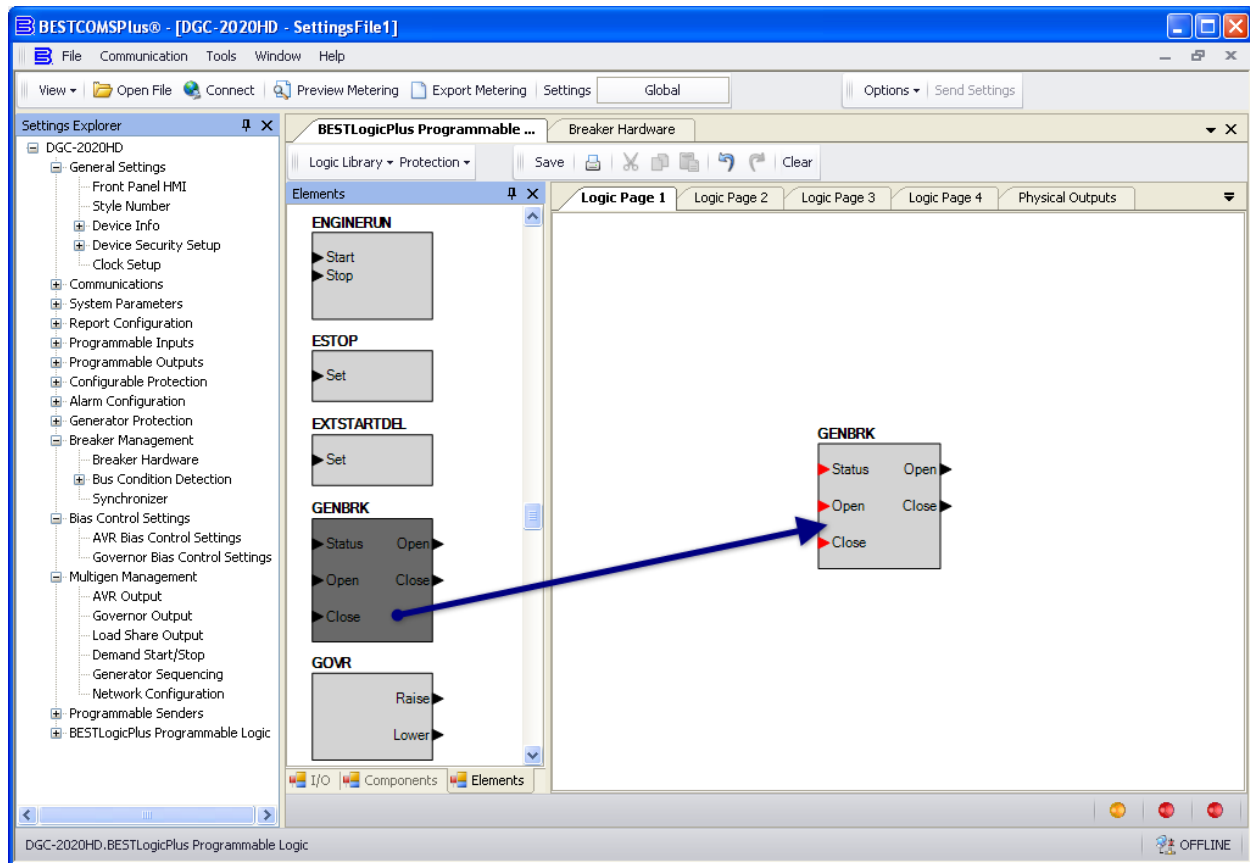

Figure 55. Synchronizer Setup in BESTLogicPlus Step 12
12. Set up programmable logic to allow the DGC-2020HD to synchronize the generator and close the generator breaker. In *BESTlogicPlus* Programmable Logic, click on the *Elements* tab and drag the GENBRK (Generator Breaker) element into the main logic screen. See Figure 55.